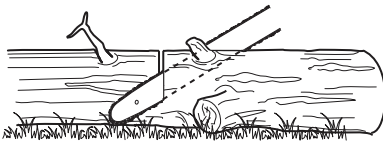

Fig. 39
1. Follow the simple directions for easy cutting. When the log is supported along its entire length (Fig. 39), it is cut from the top (overbuck).